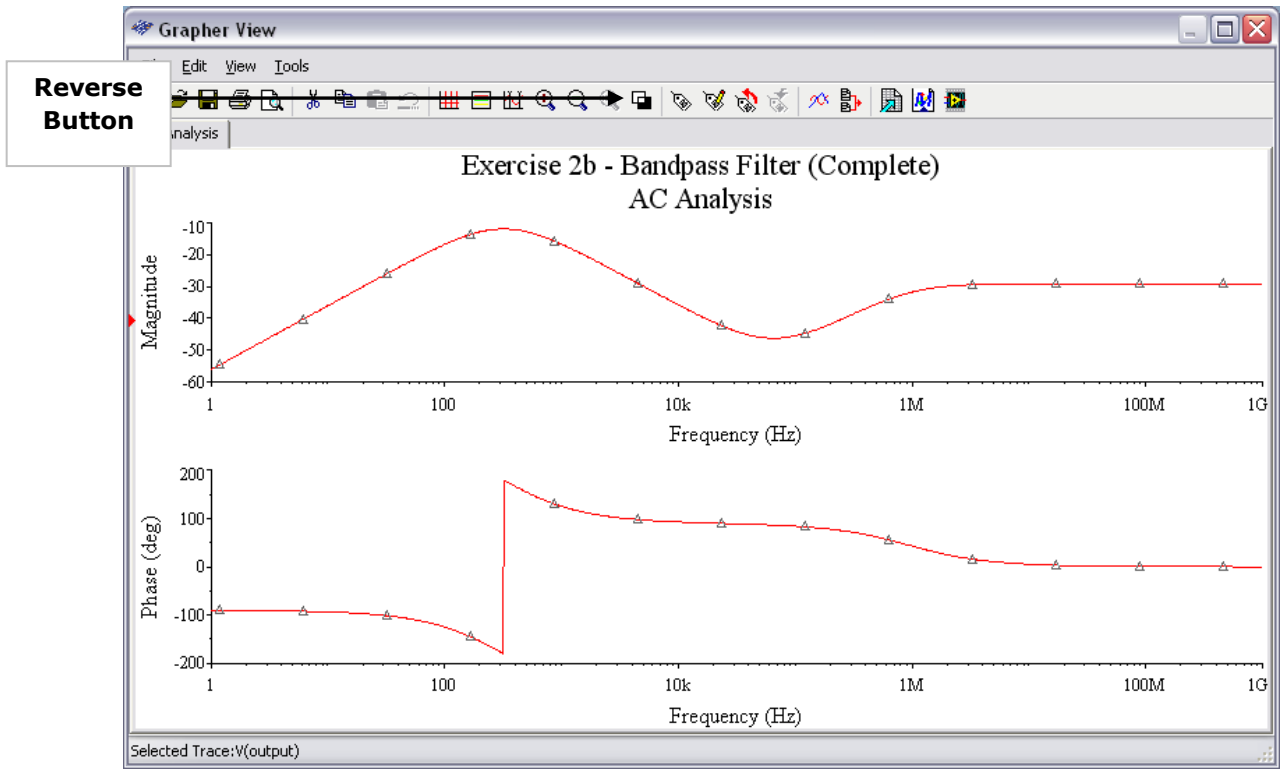

Figure E2-15. AC Analysis of Bandpass Filter
8. The Grapher View is now open. If you see the black background and would like to reverse the color of the background to white, click on the reverse button (as seen in Figure E2-15).